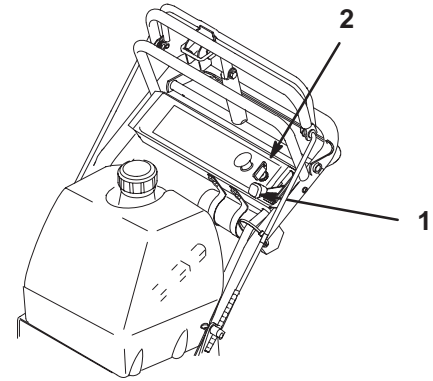

Figure 13
1. Move the throttle lever to “SLOW” (Fig. 13).
3. Turn the ignition key to “OFF” (Fig. 13).